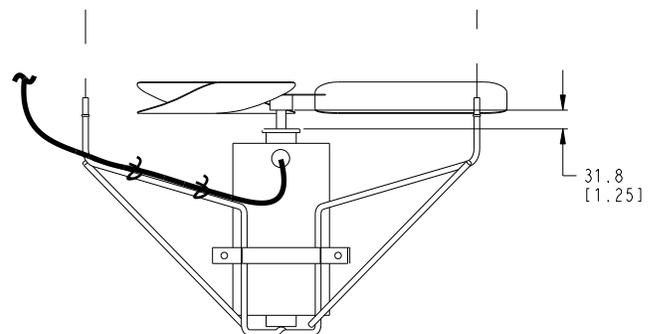

Fig. 15 - Condenser Fan Adjustment (D14)
4. Adjust fan height as shown in Fig. 15.